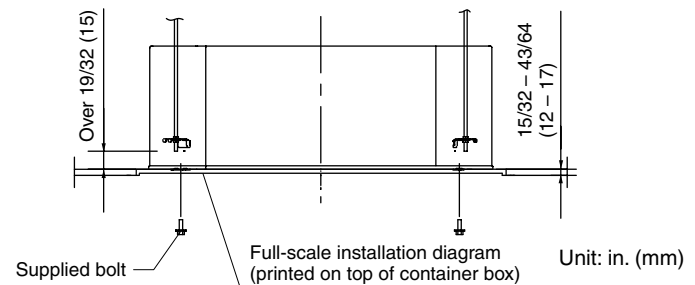

Fig. 3-4
(1) When placing the unit inside the ceiling, determine the pitch of the suspension bolts using the supplied full-scale installation diagram. (Fig. 3-4)